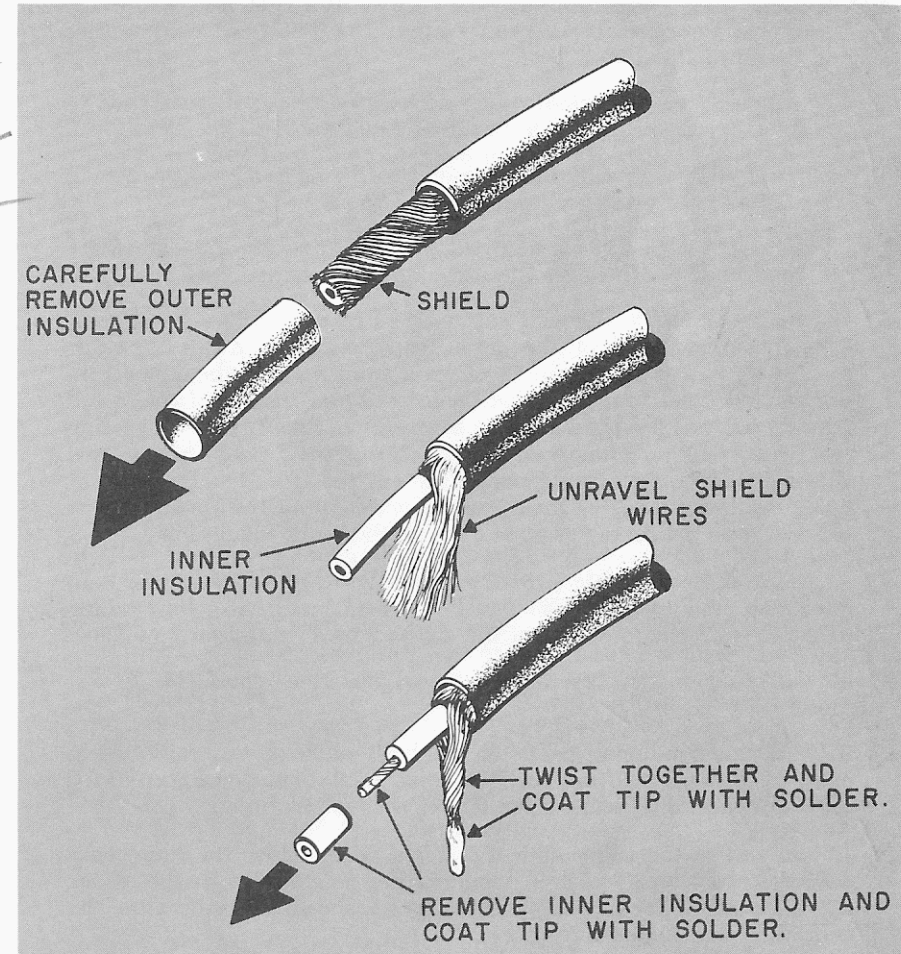

FIGURE 9
- ✓ 5" single-conductor shielded cable. See Figure 9 for cable preparation. From one end of the cable, carefully strip away 1" outer insulation. Unwind the shield strands from around the inner conductor and twist them together. Lightly solder the tip of the shield wire to prevent the strands from unraveling. Remove ¼" insulation from the inner conductor and lightly coat the tip of the exposed wire with solder. From the other end of the cable, strip away 1" outer insulation and ¼" inner insulation. Remove the shield wire at this end by cutting the strands close to the outer insulation.
- ✓ 15½" single-conductor cable. From both ends of the cable, strip away 1" outer insulation and ¼" inner insulation. See Figure 9 for cable preparation. Remove the shield wire from one end.